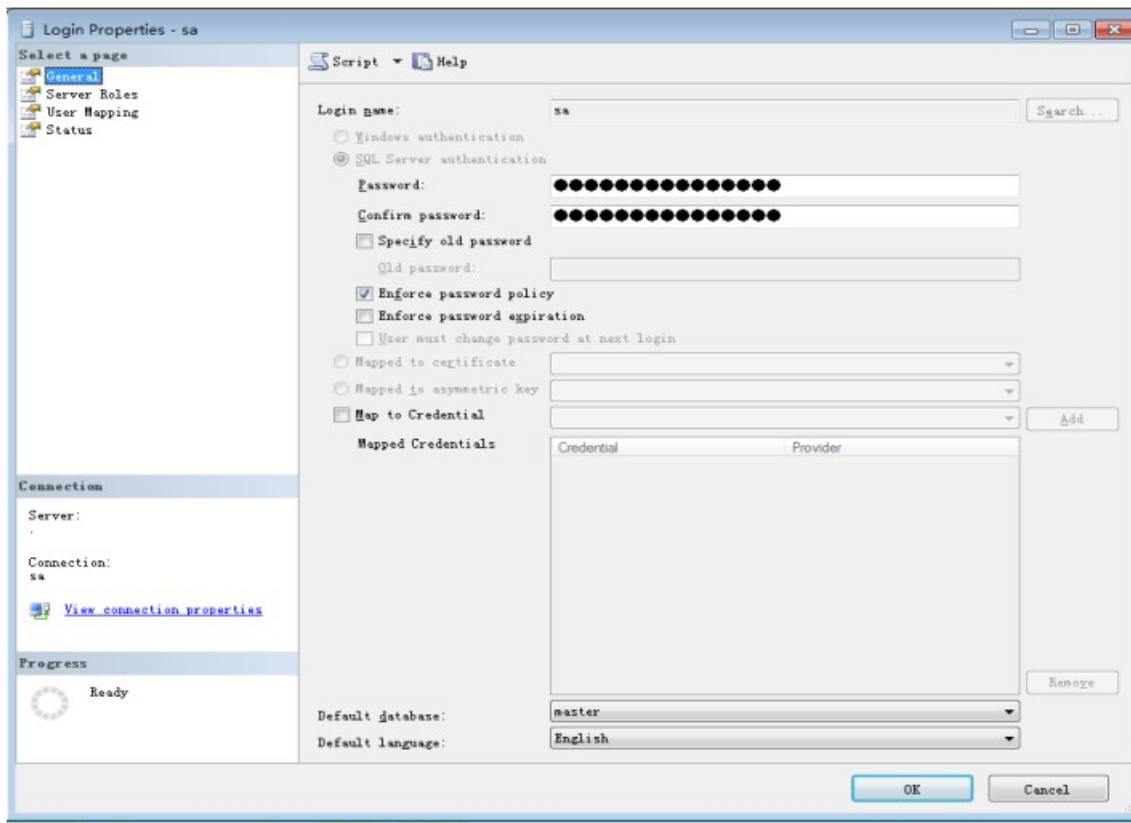

Fig.1.5 Login Properties
**Step Five:** Choose “General” on the left, then choose “SQL Server authentication” on the right and set password, click “OK” button (see Fig.1.5).